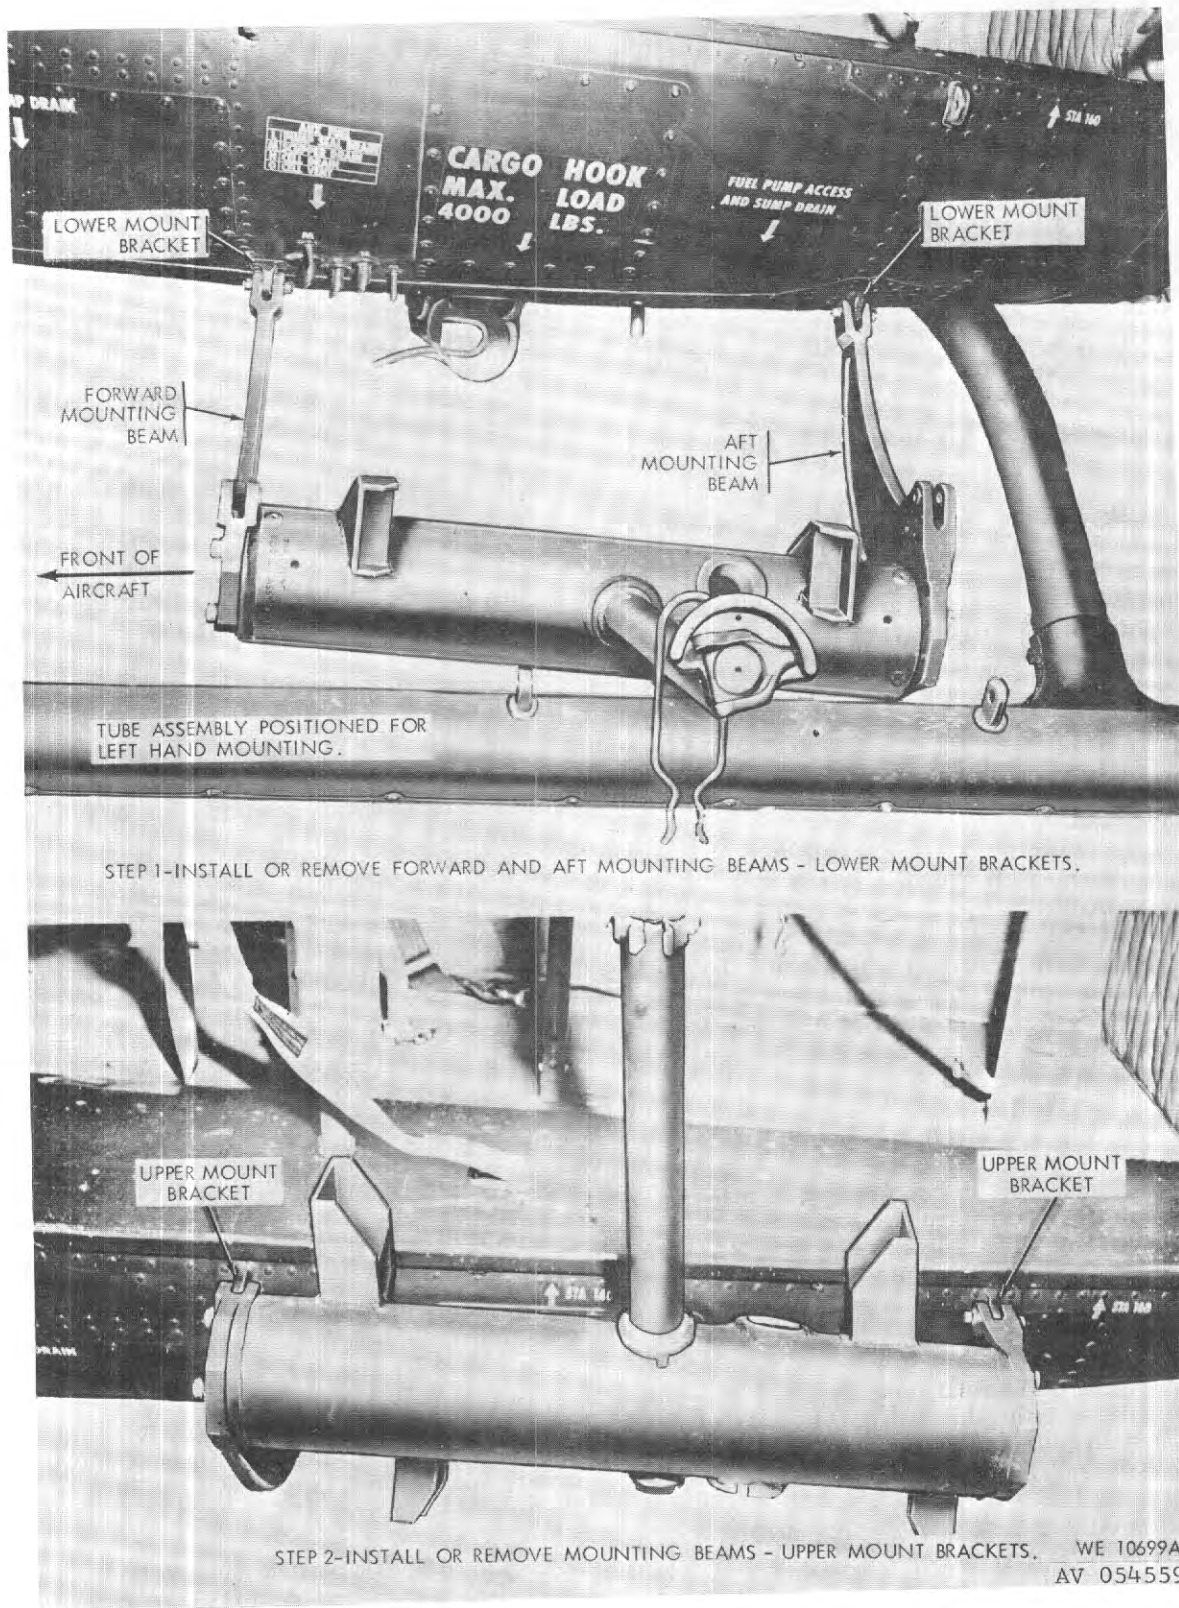

Figure 6-9. Armament subsystem M23 mount assembly - installed on helicopter - left side shown
b. Armament Subsystem M23 Mount Assembly. The mount assembly (figure 6-9) is installed on the aft external stores hard points on both sides of the helicopter.
i. Mount Assembly - Secured, check for free pintle movement (figure 6-9).